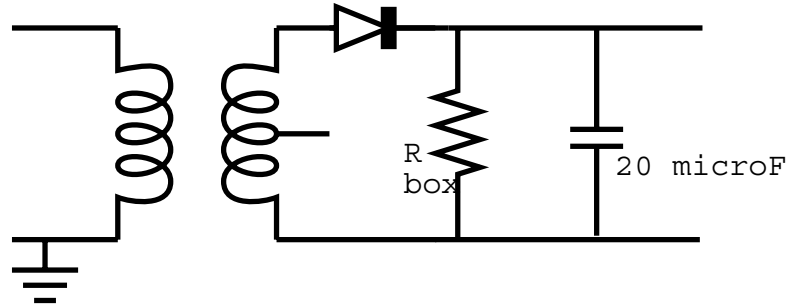

Figure 21: Half wave rectifier with load
11. Add a $20\ \mu\text{F}$ capacitor in parallel with the resistor to convert the circuit to a half wave rectifier with load (Figure 21). *Be sure the plus side of the capacitor is connected to the high side of the output.*